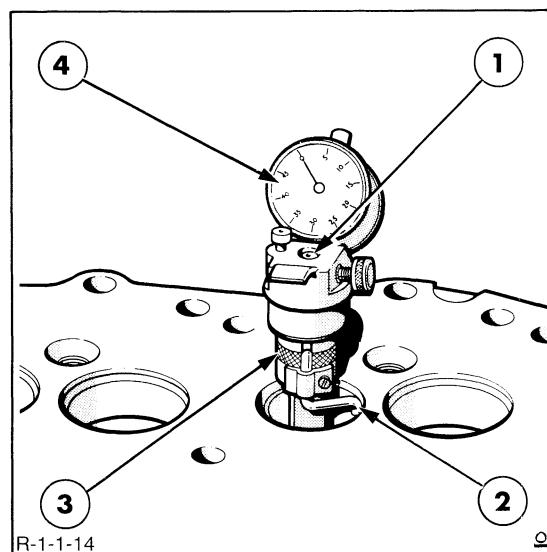

Figure 14
4. Measure the concentricity of the valve seat with a suitable gauge, as shown in Figure 14. If the valve seat runout exceeds the specified figure, see "Specifications" – Chapter 3, reface the seat.